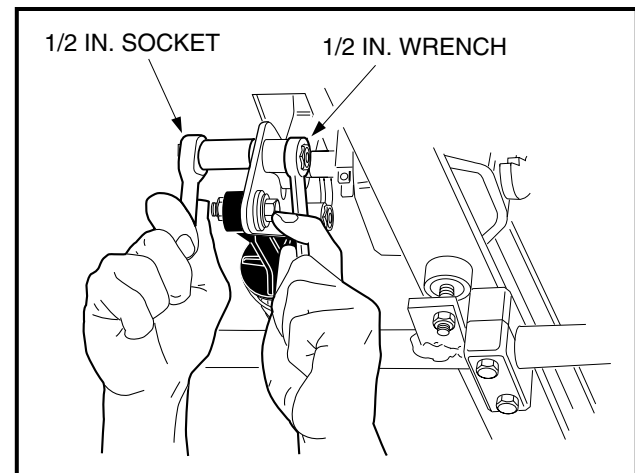

Figure 5-8 Accelerator Pedal Adjustment
5. Loosen the nut and bolt securing the accelerator pedal to the pivot plate (**Figure 5-8, Page 5-8**).